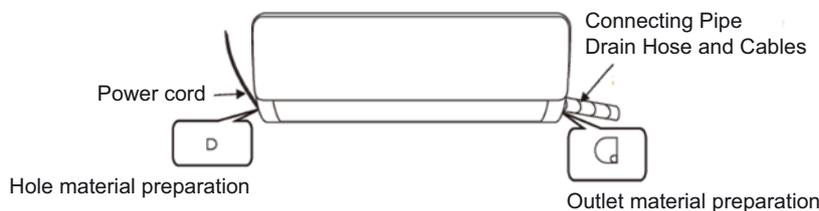
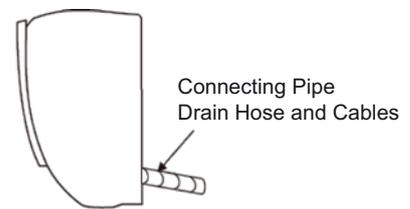

Fig. 1
Fig. 2
1. Depending on the position of the unit, the piping may be routed sideway from the left or the right (Fig. 1), or vertically from the back (Fig. 2) (depending on the pipe length of the indoor unit). In the case of side-way routing, cut off the outlet cutting stock of the opposite side.